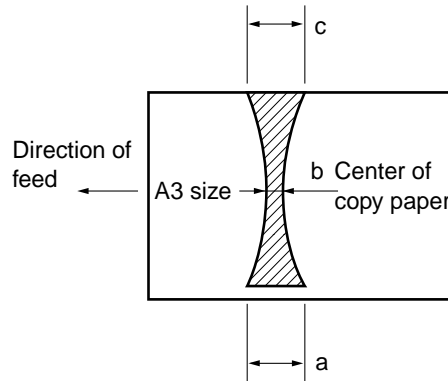

Figure 10-220
- 5) Measure the width of the toner portion which has a glossy surface, as shown in Figure 10-220.